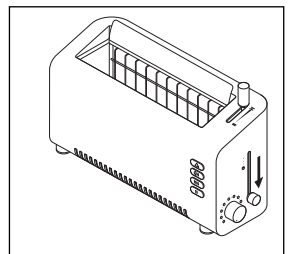

Fig.2
- 4 Lower the carriage lever (Fig 2).